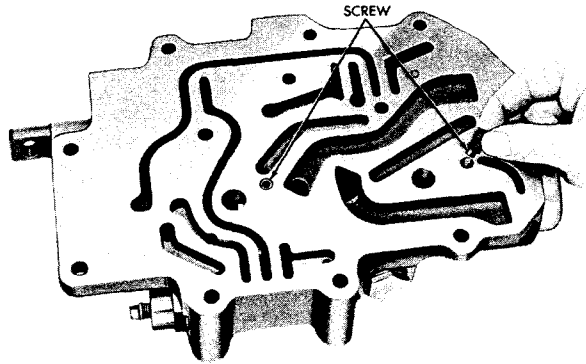
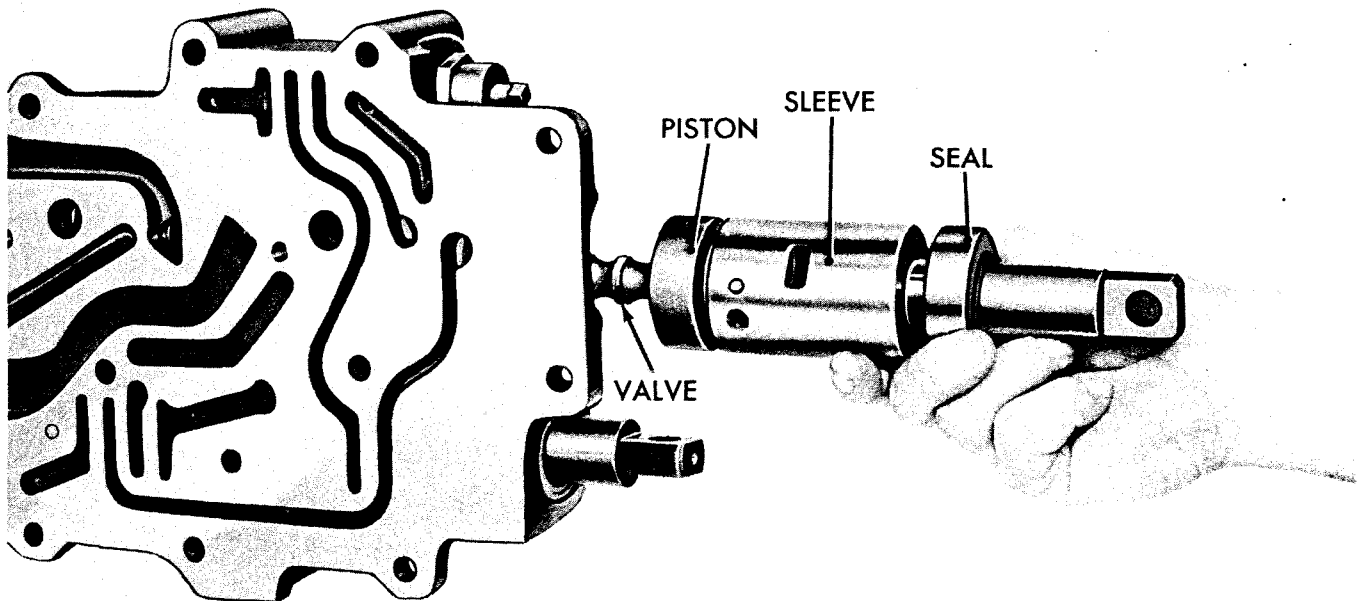
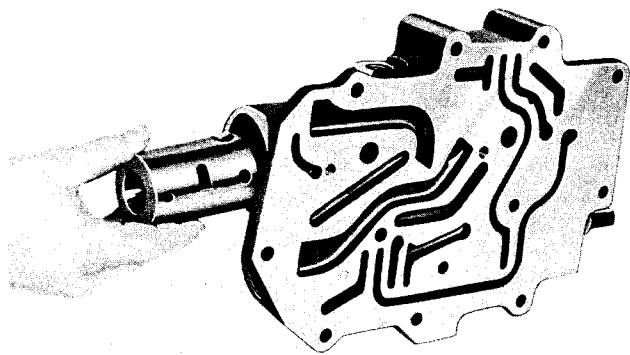
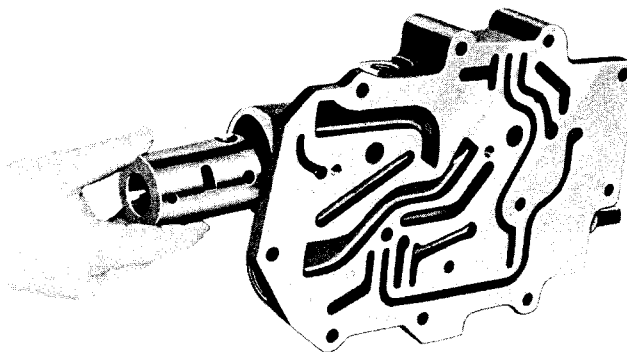

Fig XIV-4. Removing or installing socket head screws from range selector valve body
Fig XIV-8. Removing or installing forward and reverse valve, seal, forward shift sleeve, and forward-and-reverse-valve piston
Fig XIV-9. Removing or installing spring and ball from range selector valve body
Fig XIV-10. Removing or installing reverse shift sleeve
(1) Remove two socket head screws from the body (fig XIV-4).
reverse valve piston. Remove these parts (fig XIV-8).
(5) Remove the remaining spring and ball from the body (fig XIV-9).
(6) Remove the reverse shift sleeve (fig XIV-10).
(7) Align the sleeve with the valve body as illustrated and install the reverse shift sleeve (fig XIV-10). Secure the sleeve with a socket head set screw. Refer to figure XIV-4.
(8) Install the spring and the ball in the body (fig XIV-9) and compress the spring while the forward and reverse valve, seal, forward shift sleeve, and forward and reverse valve piston are installed (fig XIV-8). Align the sleeve with the valve body as illustrated, and secure the sleeve with a socket head set screw. Refer to figure XIV-4.